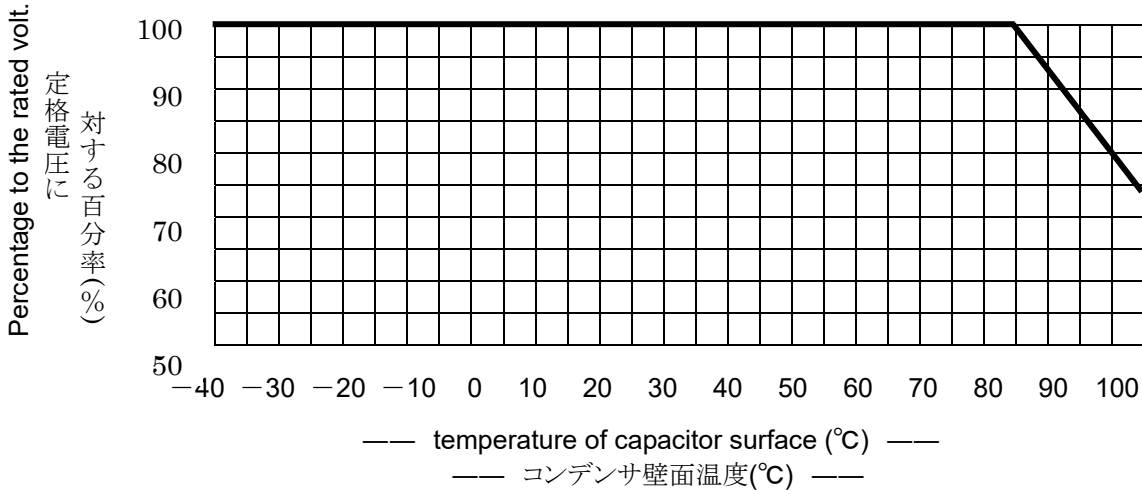

Fig.2 CURRENT DERATING VS. TEMPERATURE
* When used beyond 85°C at temperature of capacitor surface, be in accordance with Fig.2.
When used beyond 85°C at temperature of capacitor surface, be in accordance with Fig.2.
② Permissible current 許容電流
• The permissible current must be considered by dividing into pulse current (peak current) and continuous current (rms current) depending on the breakdown mode, and when using, therefore, make sure the both current are within the permissible values. When used beyond 85°C at temperature of capacitor surface, be in accordance with Fig.2.